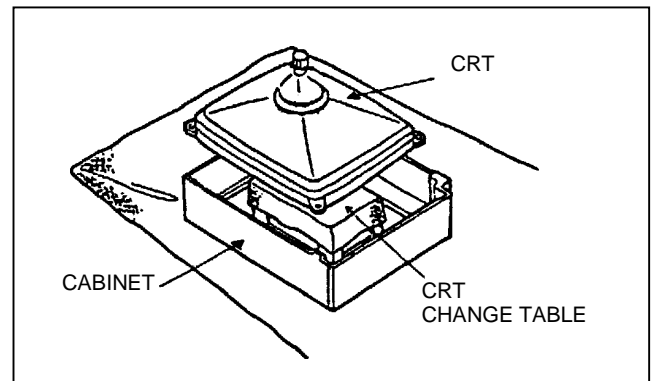

Fig. 7
- 4. After 4 screws have been removed, put the cabinet slowly on cloth (At this time, be carefully so as not to damage the front surface of the cabinet) shown in Fig.7.